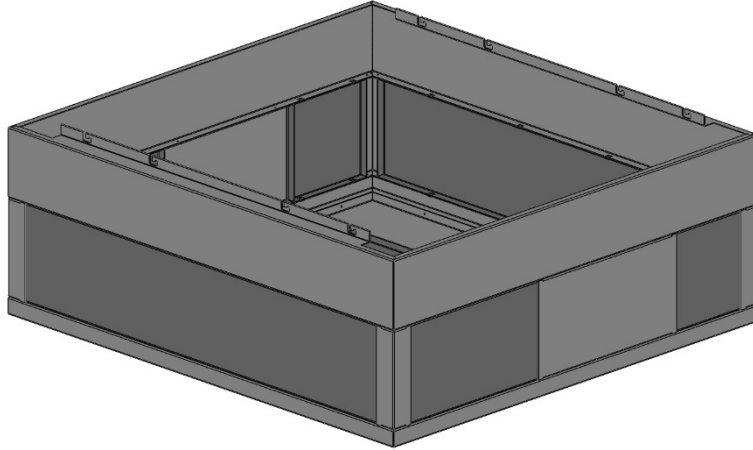

Figure 55 – External Diffuser Box
1. The External Diffuser Box assembly has been designed to fit over the Internal Diffuser Assembly for below ceiling configurations – *see figure 55.*